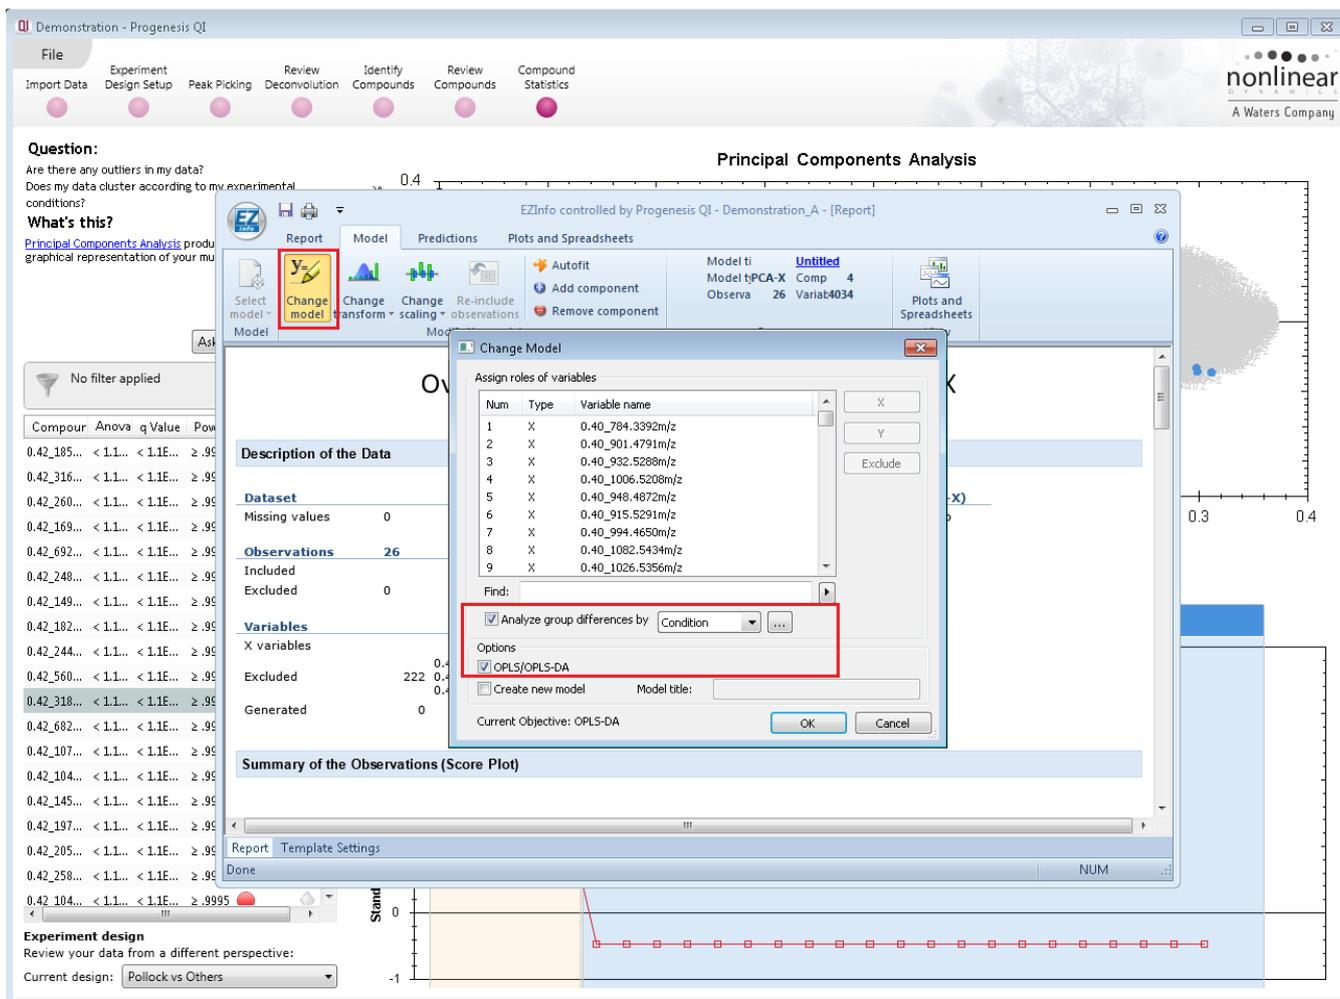

Figure 23: From the **Model** tab, select **Change model**. In the **Change Model** box, select to analyse group differences by condition, and select OPLS-DA.
9. In the dialog, select **Analyse group differences by** "Condition" and select "OPLS-DA" (Figure 23). Whether you create the analysis as a new model or not is not important for the purpose of this demonstration (in this case, the box is unticked, so replacing the initial model).